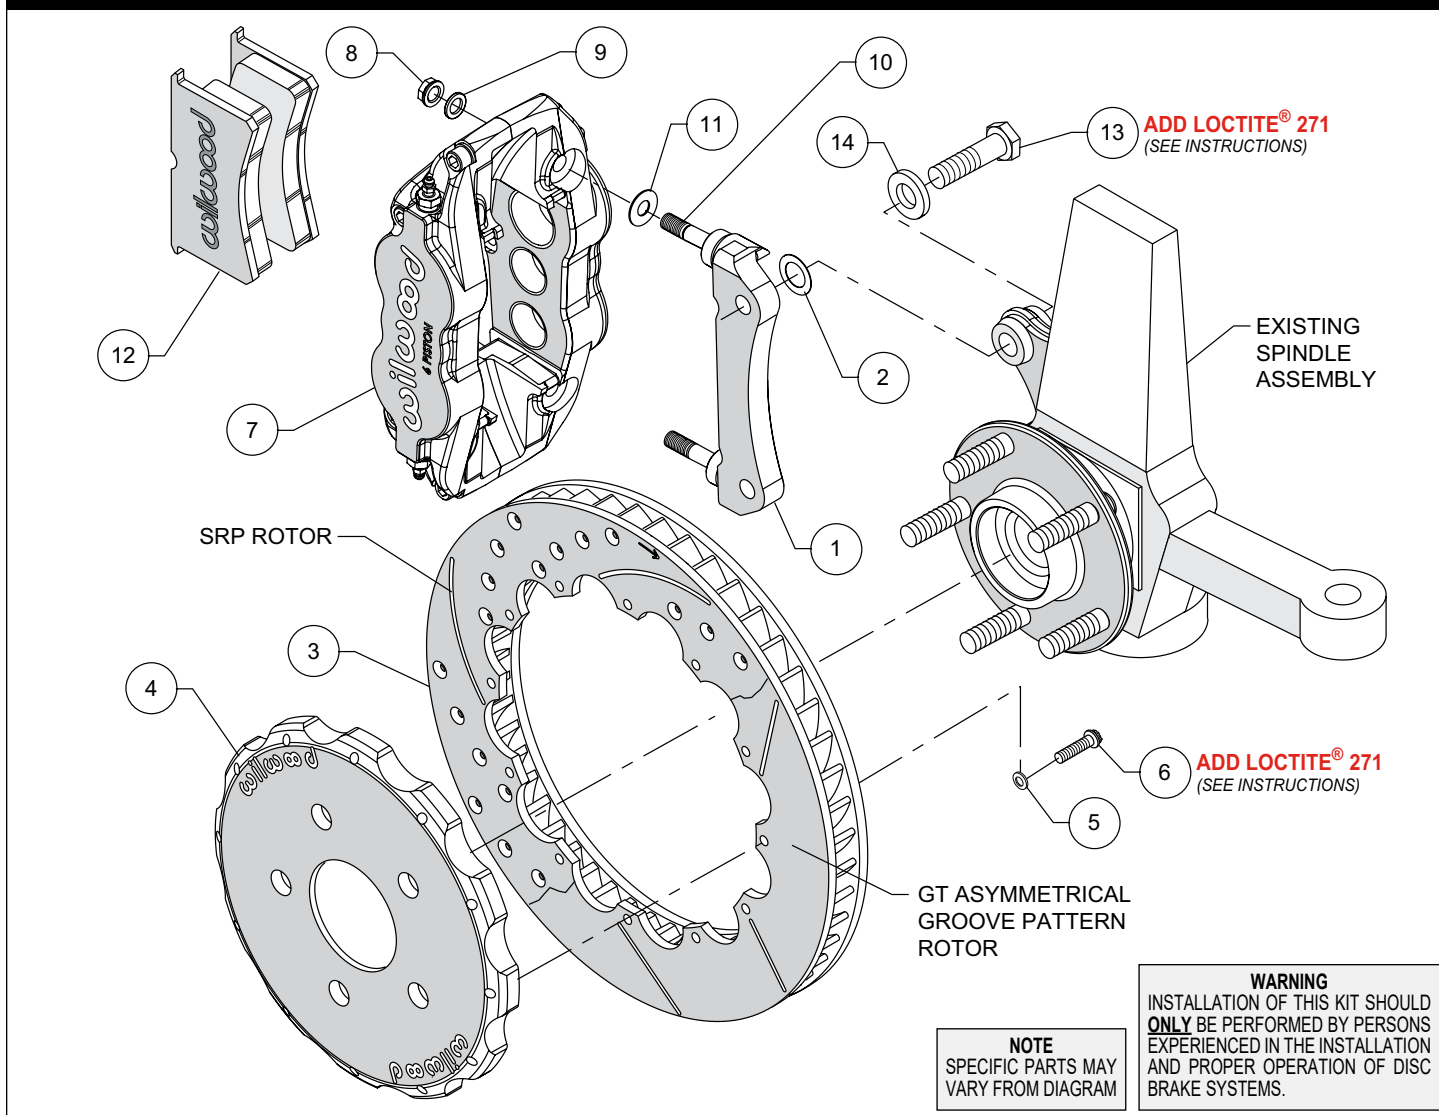
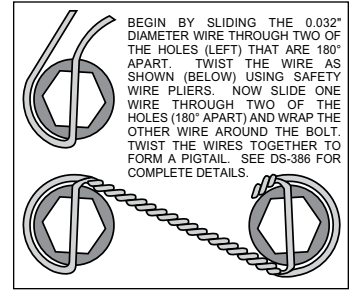

Figure 1. Typical Installation Configuration
Figure 3. Safety Wire Diagram
Assembly Instructions (numbers in parenthesis refer to the parts list and Figure 1 on the preceding pages):
- The caliper mount bracket (1) should initially be installed with clean, dry threads on the mounting bolts. Orient the bracket, as shown in Figure 1 and install using bolts (13) and washers (14). Initially place one .029" thick shim (2) on each bolt between the bracket and upright, Figure 1. Temporarily tighten the mounting bolts. **NOTE:** *The bracket must fit squarely against the mount bosses on the upright.* Inspect for interference from casting irregularities, machining ridges, burrs, etc. Later, after the caliper alignment has been checked, the mount bolts will be secured using red *Loctite*® 271.
- Orient the rotor (3) and the hat (4) as shown in Figure 1 and Photo 1. Attach rotor to hat using bolts (6) and washers (5). Apply red *Loctite*® 271 to the bolt threads and torque to 155 **in-lb** using a criss-cross pattern. For an added measure of security, the bolts may be safety wired using standard 0.032 inch diameter stainless steel safety wire as shown in Figure 3. Refer to Wilwood's data sheet DS-386 (available at www.wilwood.com/Pdf/DataSheets/ds386.pdf) for complete safety wire installation instructions.
- NOTE:** *This kit contains distinct right and left hand calipers that must be mounted in a specific direction, as described below.* Initially place one .035" thick shim (11), on each stud (10) as shown in Figure 1 and Photo 2. Mount the caliper (7) onto the bracket (1) using lock nuts (8) and washers (9), Figure 1. Ensure that the caliper is mounted so that the largest pistons are at the rotor exit end of the caliper, in relation to the direction of rotor rotation. Temporarily tighten the lock nuts and view the rotor through the top opening of the caliper. The rotor should be centered in the caliper, Photo 3. If not, adjust by adding or subtracting shims (2) between the bracket and the upright. Always use the same amount of shims on each of the two mounting bolts. Once the caliper alignment is correct, remove the bracket mounting bolts (13) one at a time, apply red *Loctite*® 271 to the threads, and torque to 77 ft-lb.